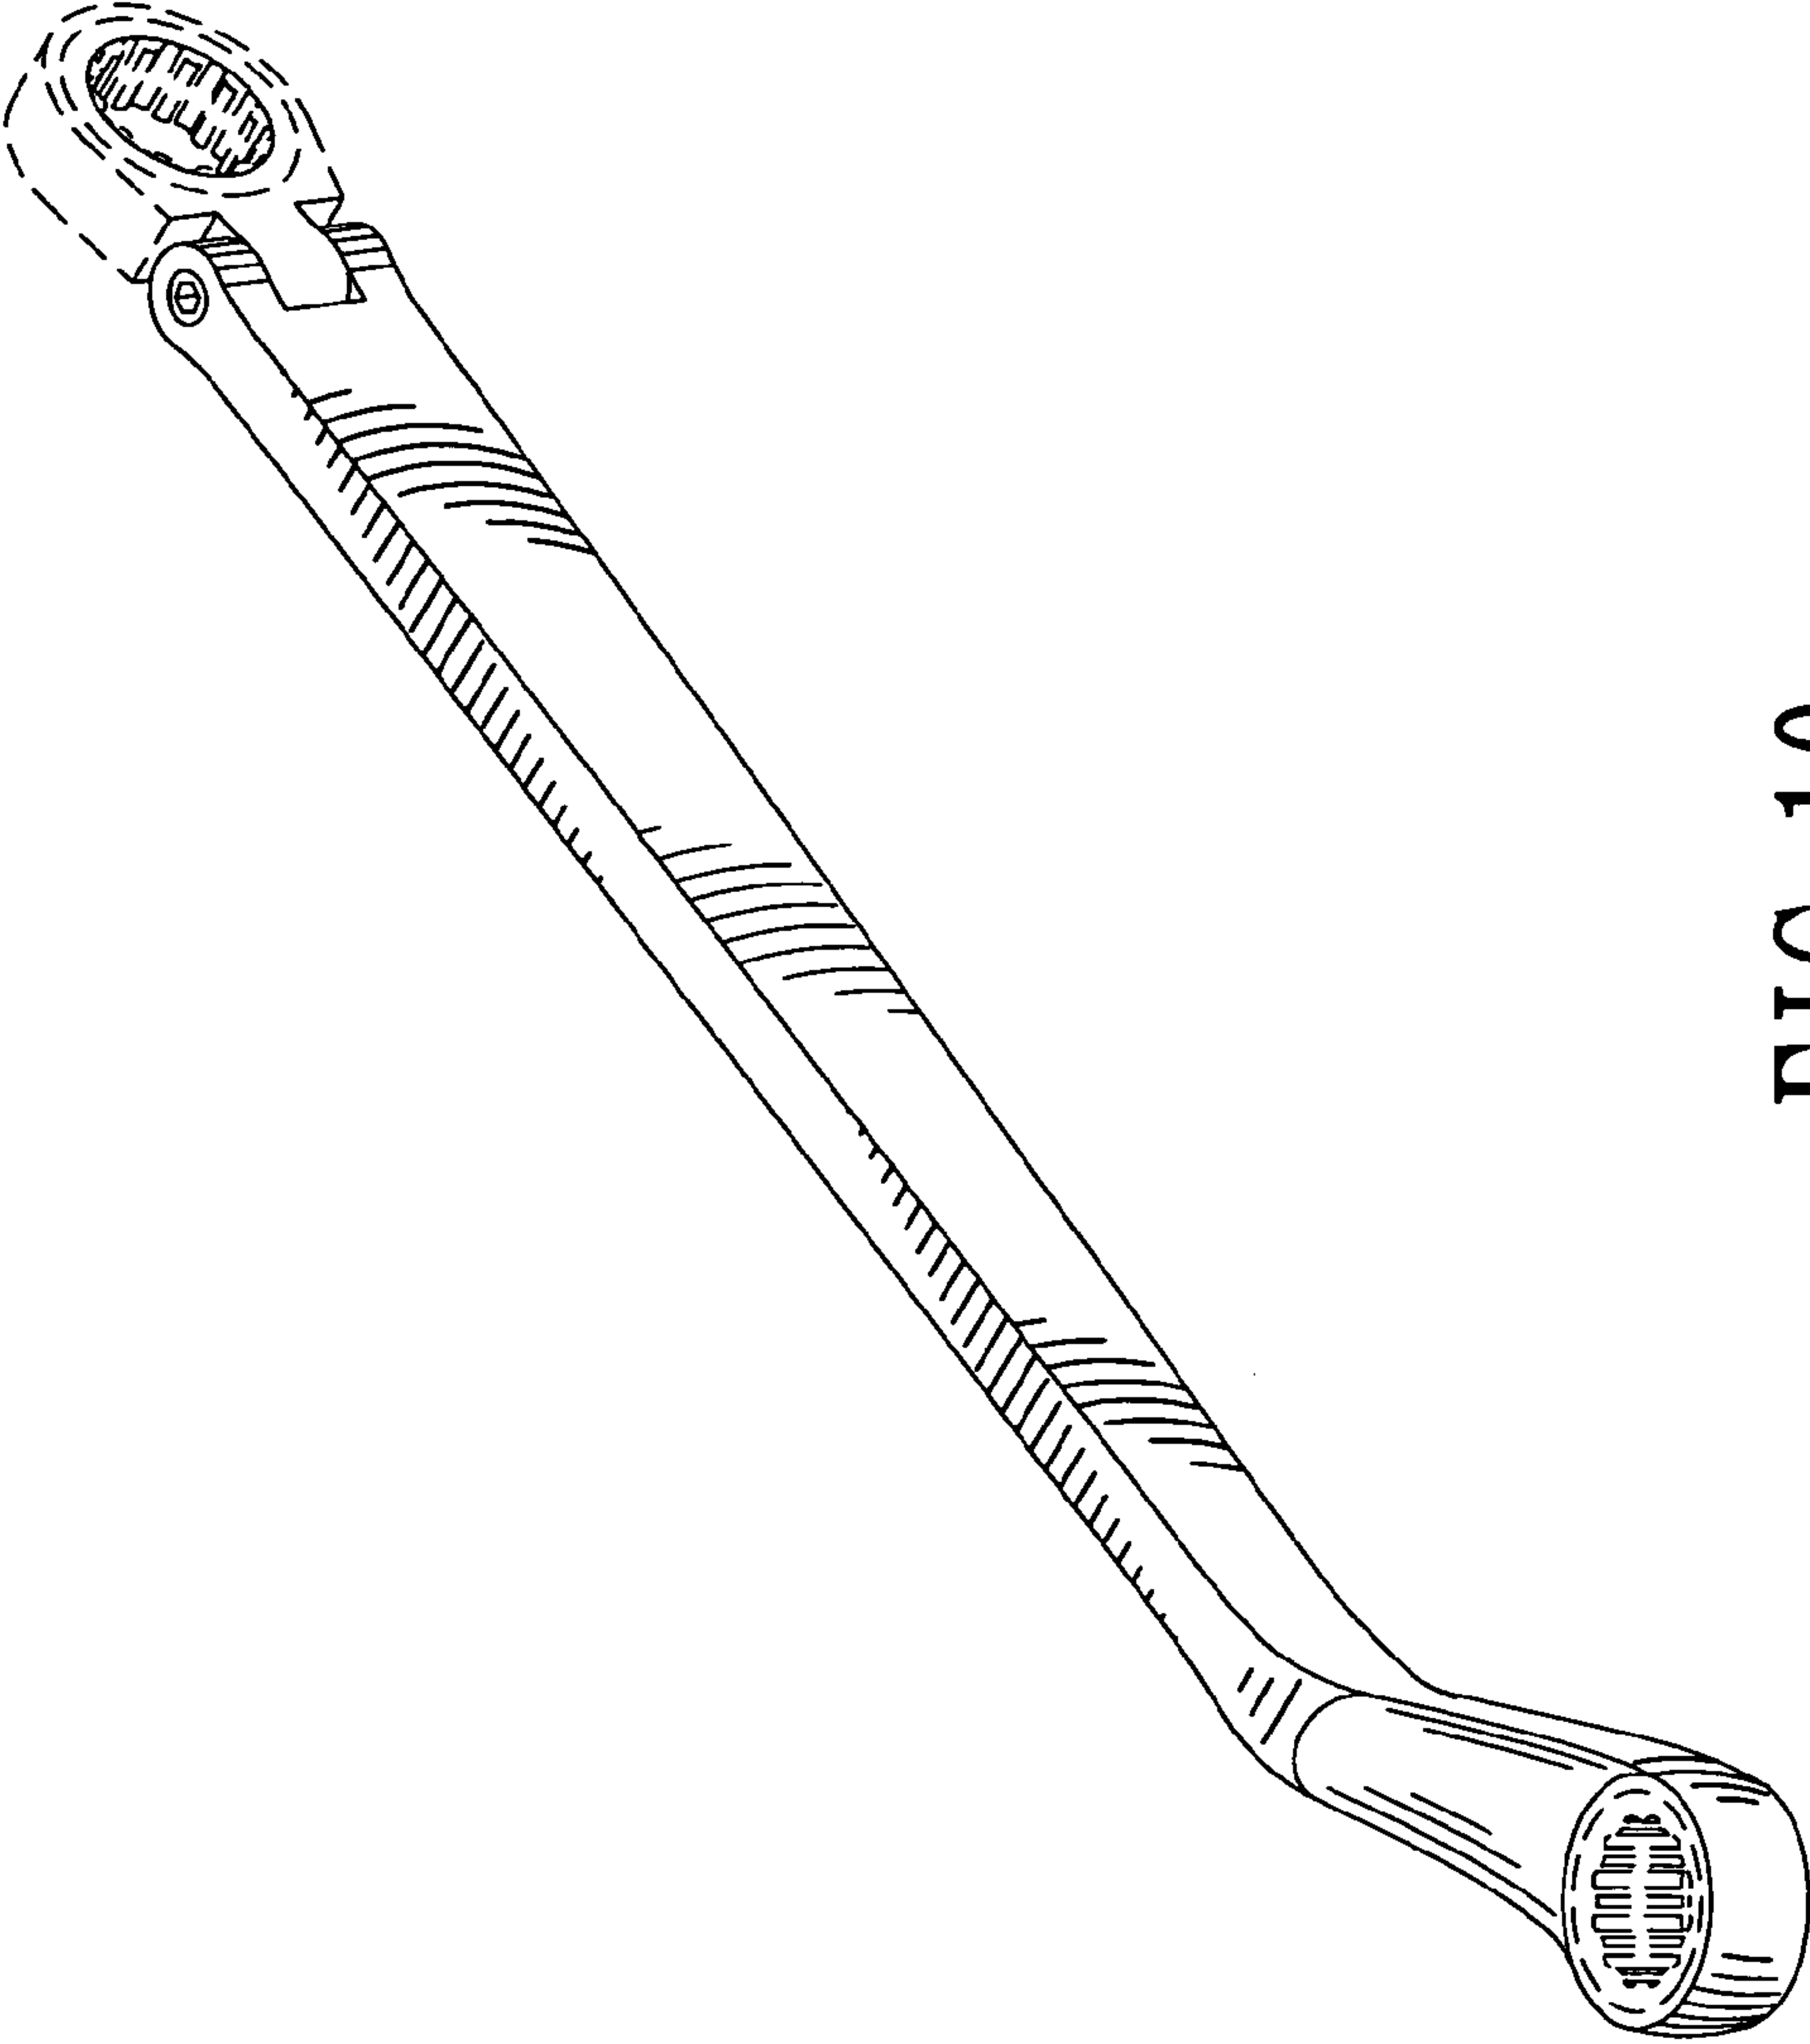

FIG 10
FIG. 10 is a perspective view (II) of the spanner in a position of use.